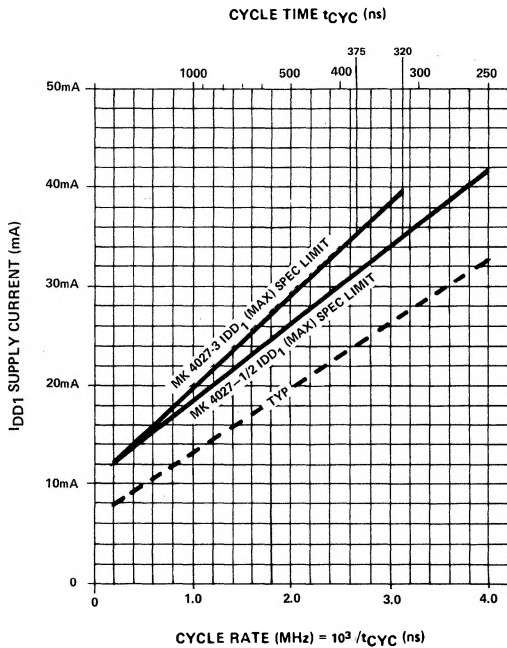

Figure 1. Maximum IDD1 versus cycle rate for device operation at extended frequencies.
- Current is proportional to cycle rate.  $I_{DD1}(\max)$  is measured at the cycle rate specified by  $t_{RC}(\min)$ . See figure 1 for  $I_{DD1}$  limits at other cycle rates.